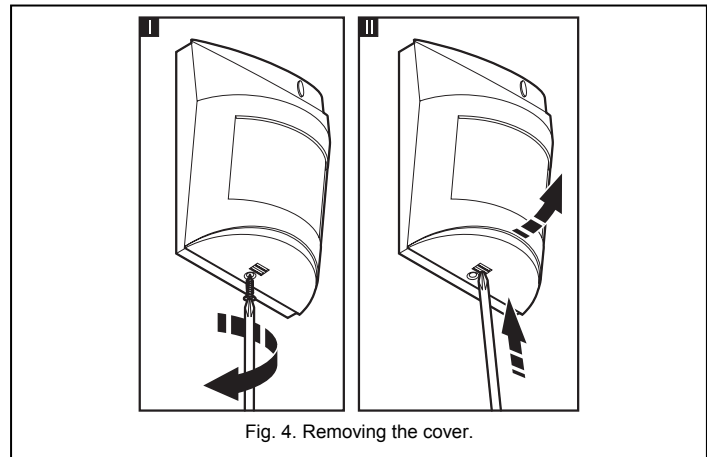

Fig. 4. Removing the cover.
1. Open the enclosure as shown on Figure 4.